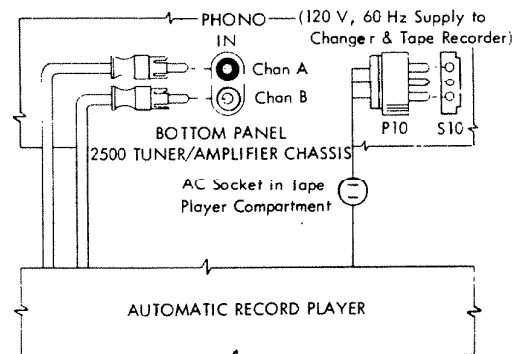

Fig. 1.25
- (2.2) Disconnect record player's audio cables from PHONO IN jacks in bottom of receiver chassis. (Fig. 1.25)
- (2.3) Disconnect 120 V., 60 Hz. power plug P10 from 120 V. socket S10 in bottom of receiver chassis. (Fig. 1.25)
- (2.5) Disconnect record player's audio cables from PHONO IN jacks in bottom of receiver chassis. (Fig. 1.25)
- (2.6) Disconnect 120 V., 60 Hz. power plug P10 from 120 V. socket S10 in bottom of receiver chassis. (Fig. 1.25)
(2.13) Disconnect the record player's audio cables from the PHONO IN jacks in bottom of receiver chassis. (Fig. 1.25)
(2.14) Disconnect 120 V., 60 Hz. power plug P10 from 120 V. socket S10 in bottom of receiver chassis. (Fig. 1.25)